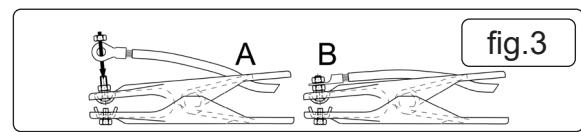

fig.3
4.4. **ASSEMBLING THE EARTH CLAMP** (Refer to fig.3).